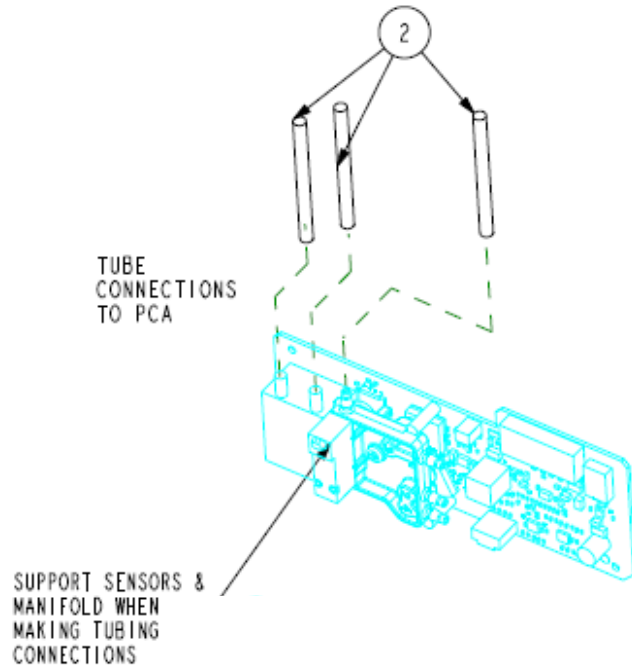

FIGURE 8-50: PROPER TUBING CONNECTIONS 3
2. Connect the proper tubing to the Sensor PCA. Refer to Figure 8-50.